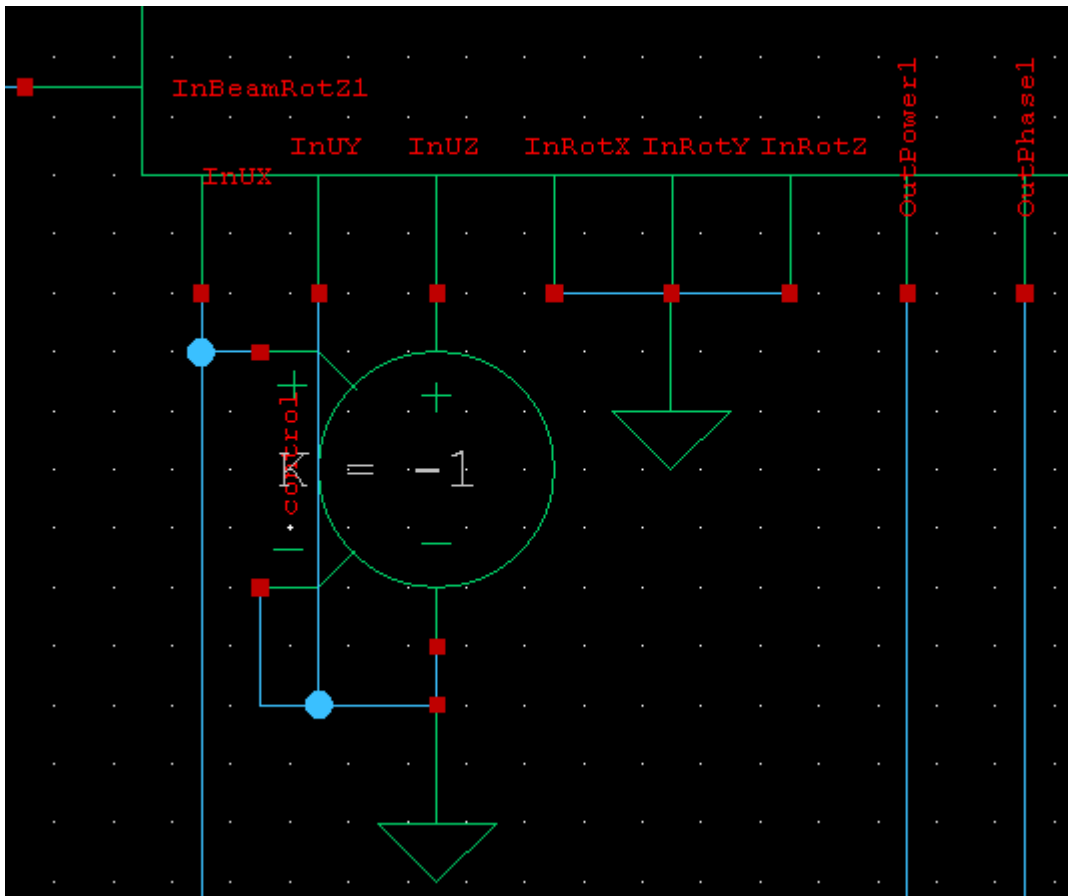

Figure 42: Mechanical coupling
- Connect the VCVS as shown in (Figure 42).